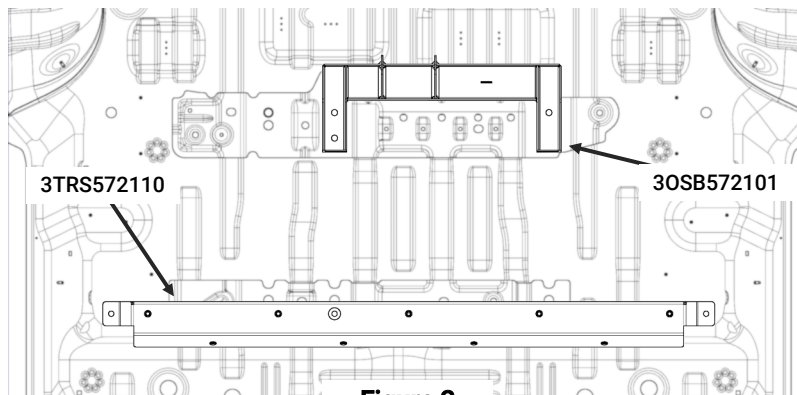

Figure 2
- B. Align the Seat Bracket with (3) of the front holes from the second row seats and install (3) of the OEM bolts that were removed from the seats.
- C. Locate the Center Support Bracket [3OSB572101] and align it as shown in Figure 2.